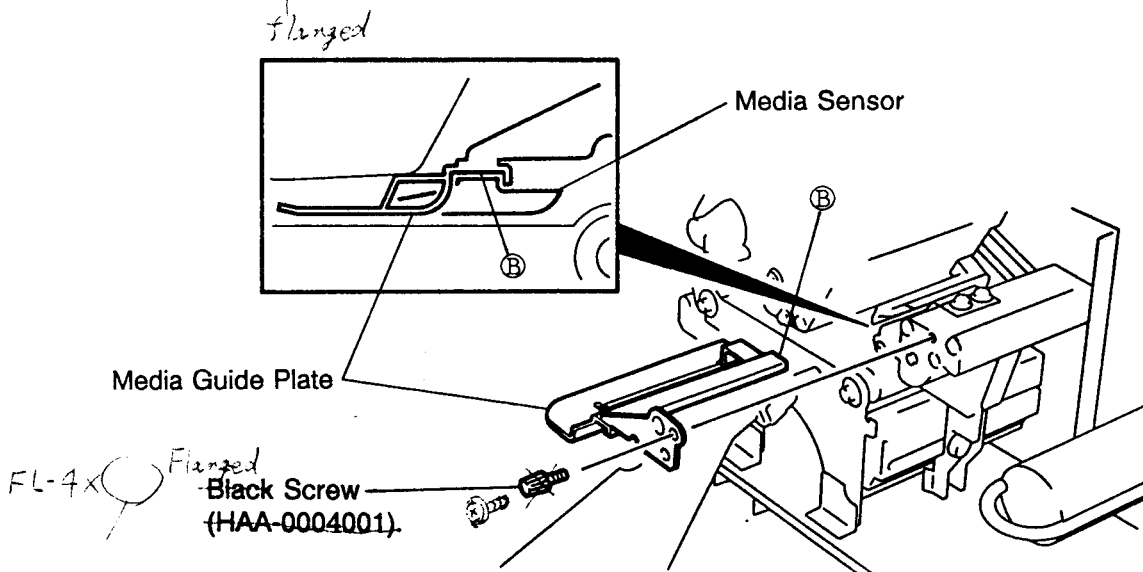

Fig. 10-2
3. Turn the head lever to position ③, then release the ribbon shaft holder plate.
4. Remove the black screw to detach the media guide plate. (See Fig. 10-2.)
8. Place the portion ② of the media guide plate on the media sensor. Secure the media guide plate with the ~~black screw~~.